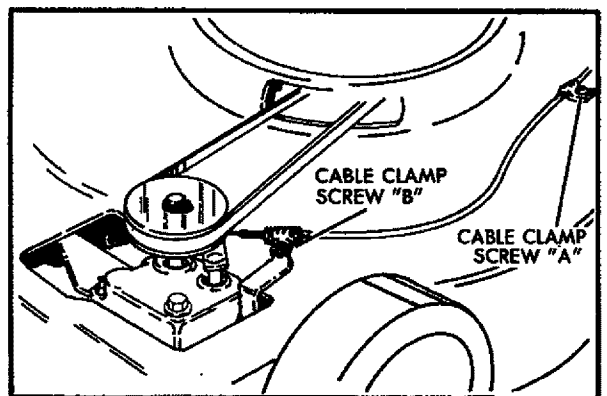

FIG. 23
11. Tighten screw "A" (See Fig. 23).